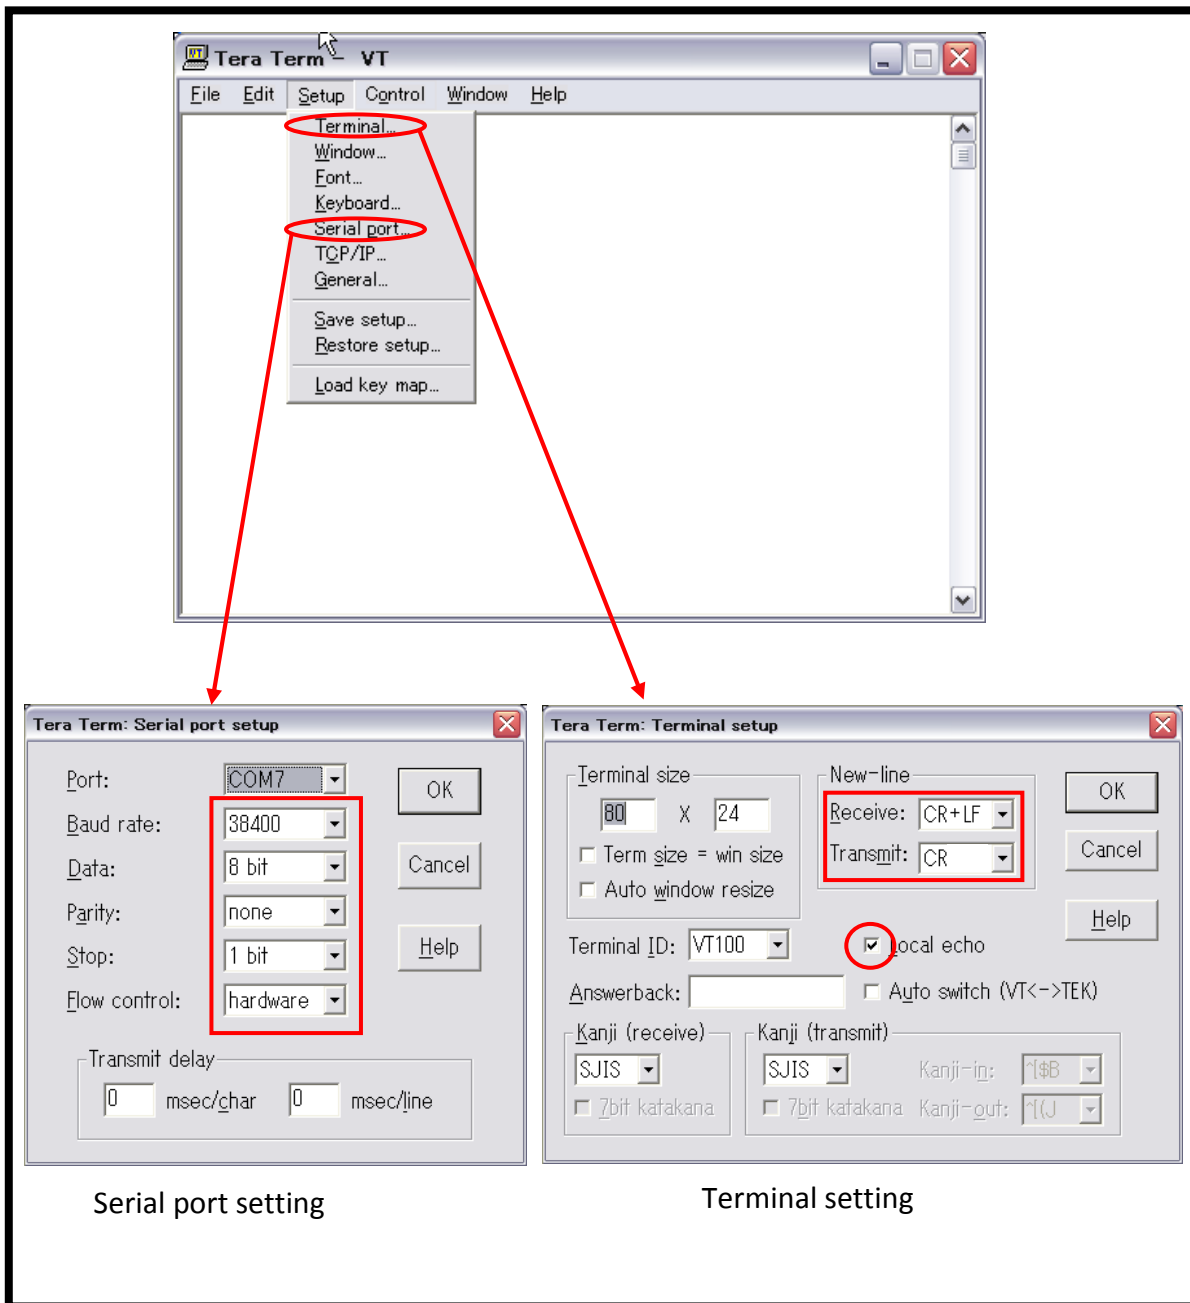

Fig2. Tera Term Communication setting
5. Please click "Serial port" in the "Setup", then change the setting as fig 2.
6. Please click "Terminal...." in the "Setup", then change the setting as fig 2.